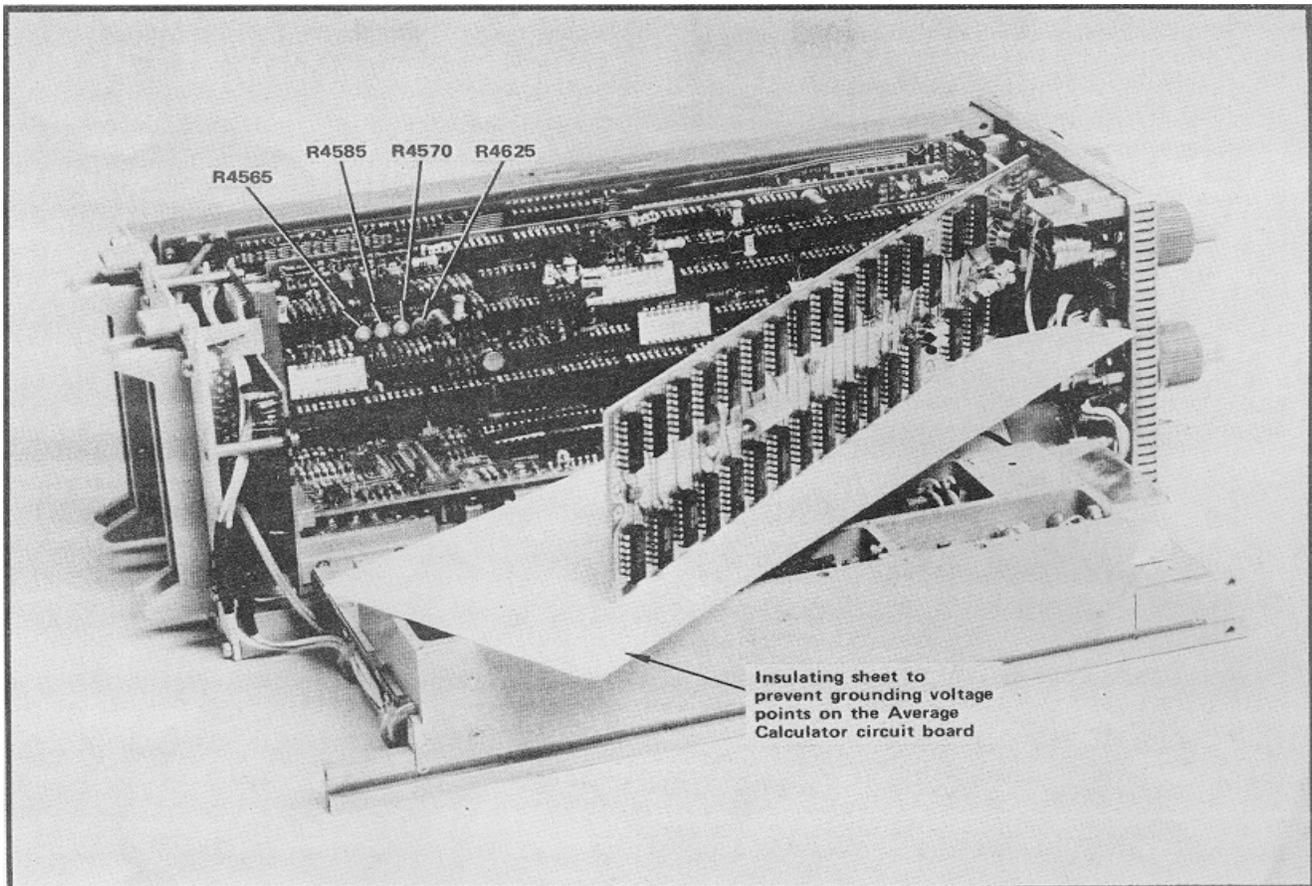

Fig. 4-20. Digital Storage test points and adjustments.
a. ---Preparation: Turn the power off. Remove the Digital Averaging board to gain access to the adjustments on the Digital Storage board. Place the Digital Averaging board alongside or on top of the instrument with a piece of insulation material, such as a sheet of paper, between the back of the board and the instrument (Fig. 4-20). This will prevent accidentally grounding the exposed solder points on the circuit board
d. --- Adjust R4585 (Fig. 4-20) slowly ccw, from a fully cw position, until all of the display (include the display edges) remain stored at the end of sweep. Turn R4585 slightly past this point to assure stability.
e. --- Increase the sweep rate to 10 ms or 5 ms, then adjust the Horizontal Offset with R4570 (Fig. 4-20) to place the stored 500 kHz marker under the frequency DOT. Check accuracy by switching the DIGITAL STORAGE off and on. The marker location for the non-store and stored displays should be the same.
f. --- Adjust the Horizontal Gain, with R4625 (Fig. 4-20), so the stored 4500 kHz marker is aligned with the non-store marker. Check the accuracy by switching the DIGITAL STORAGE off and on.
h. ---Adjust the storage Vertical Gain, with R4565 (Fig.4-20) so the amplitude of the stored display and the n store display are the same.